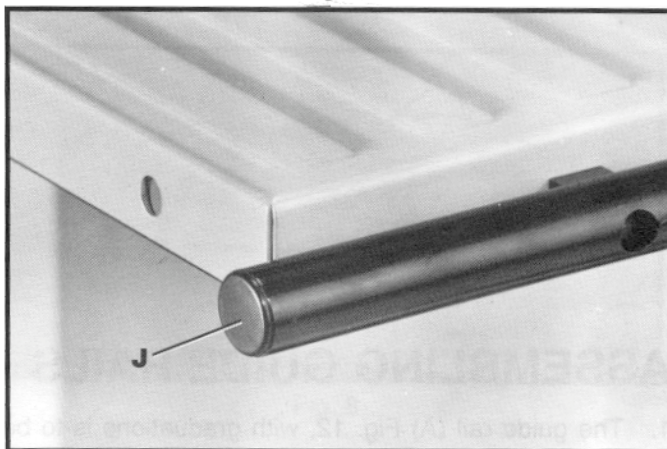

Fig. 15
8. Insert end cap (J) Fig. 15, on end of guide rail extension. This end cap was removed in Step 6.